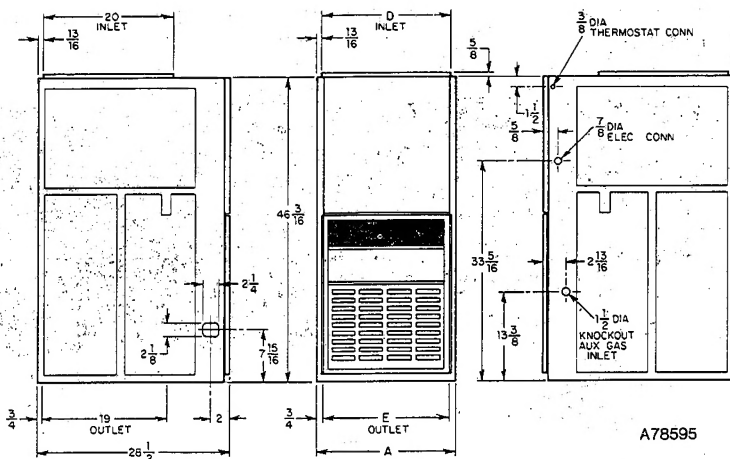

Figure 2—Dimensional Drawing
1. See Figure 2 for dimensions and location of supply-air opening in furnace bottom.